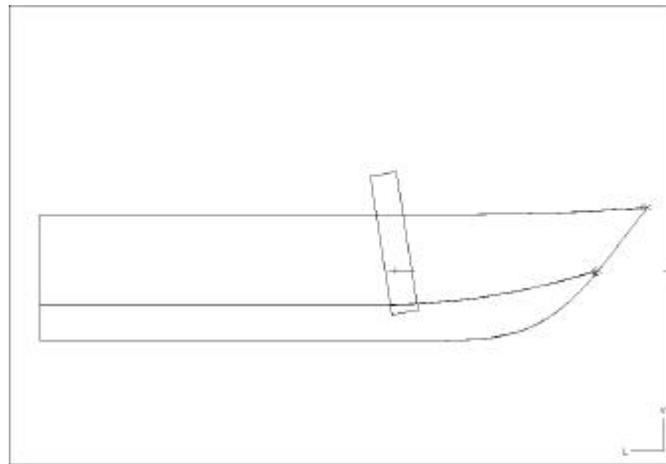

Figure 1-16: The Transom surface rotated
3. In the **Rotate** dialogue, type the following information and click **OK**: (See Figure 1-16.)